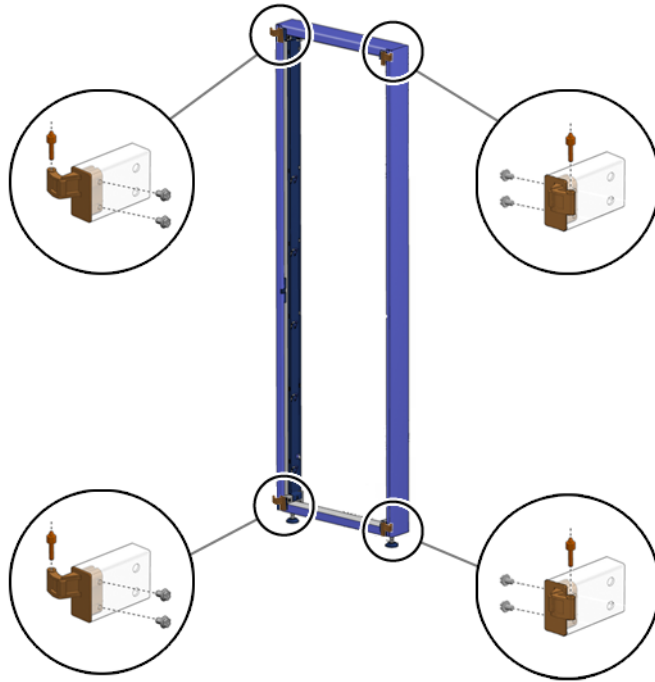

FIGURE 4-4 Removing Four Gold Hinges from the Cabinet Extension
5. Remove all four gold hinges from the front of the cabinet extension (FIGURE 4-4).